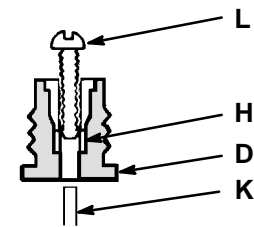

Fig 7
6. Turn the nylon screw (L) into the packing. Insert the needle (K) through the housing (D) and push out the packing (H). See Fig 7.